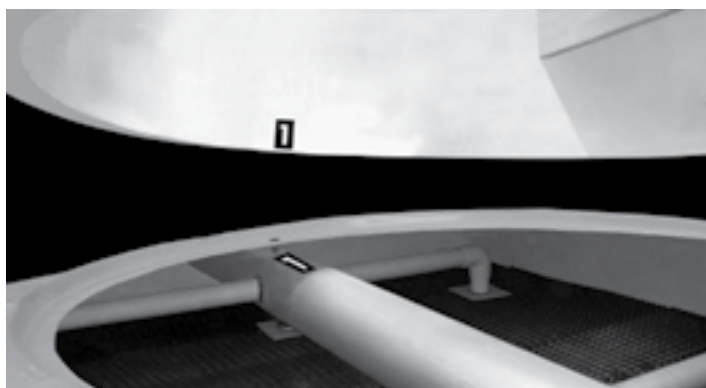

Figure A-41: Fan Duct alignment for a Two Fan Tower
- M. Identify each fan duct, they are labeled with a number on the inside of the lower edge. For a correct installation, this number must match the number on the distribution manifold of the corresponding body section. Place fan duct 1 on the corresponding receiving flange on top of body section 1 of the Tower; make sure the bolt holes and the marks inside the fan duct and receiving flange are aligned (Figure A-41 and A-45). Secure it with the stainless steel nut and bolt sets supplied by REYMSA.